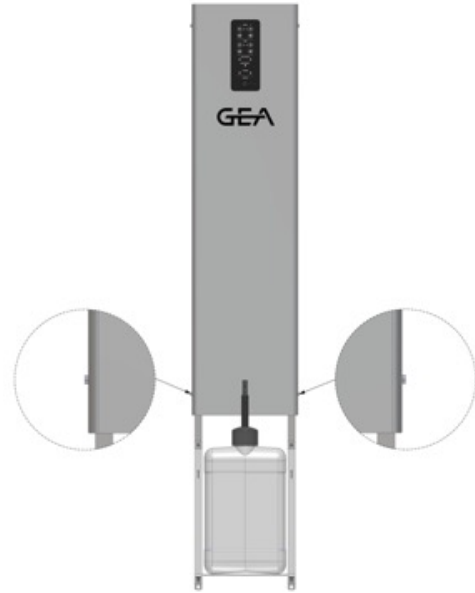

Figure 5: GEA PedicoSprayer cover
- Loosen the two bottom fix bolts about 5 mm, using a 5 mm hex key. Pull the bottom of the cover towards yourself and lift the cover off. Check Figure 5.